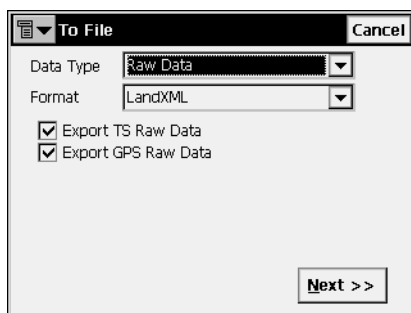

Figure 2-130. Export Raw Data To LandXML
- For *Raw Data*: FC-5, GTS-6, FC-6/GTS-7, LandXML, TDS Raw Data, MOSS Survey, Field Book (only to Total Station .fbk format), KOF, Berlin GNSS-Messprotocol or Berlin GNSS- Mittelwerte. If choosing LandXML or TDS Raw Data, select the type of raw data to export: *Export TS Raw Data* and/or *Export GPS Raw Data* (Figure 2-130).